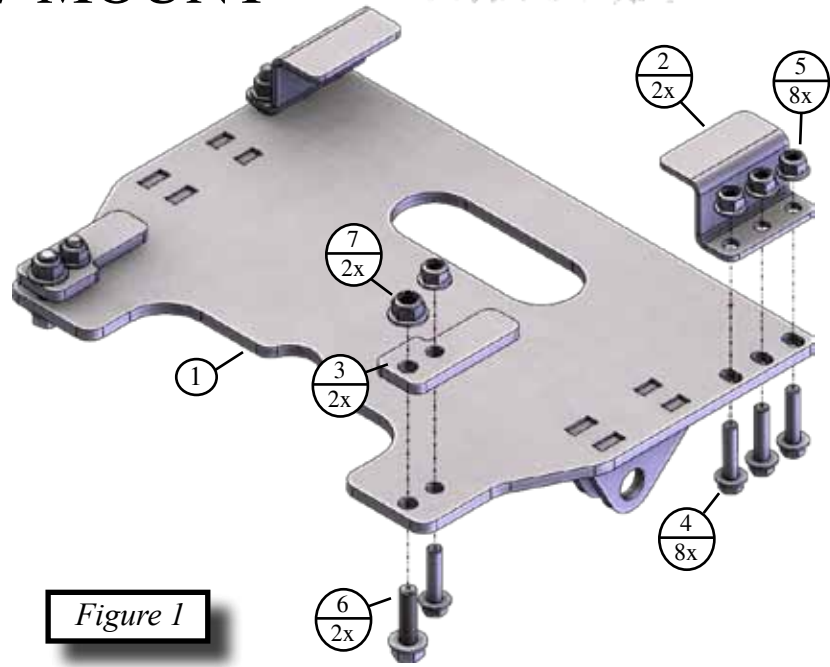

Figure 1
4. Assemble the two bolt plates (2) loosely onto the plow mount (1) using the 5/16 hardware. Shown in Figures 1 & 4.
7. Set the metal spacer (3) into the square frame tubing. Shown in Figures 1 & 7.